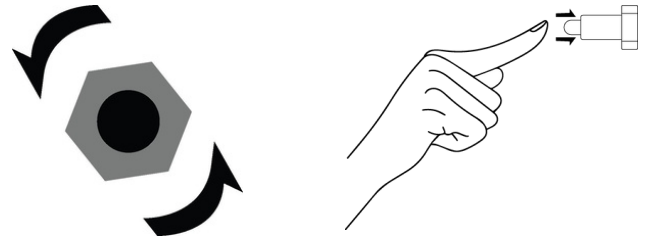

Fig 2.
- Once the cabinet has cooled down, turn the knob anti-clockwise (**Fig 2**).